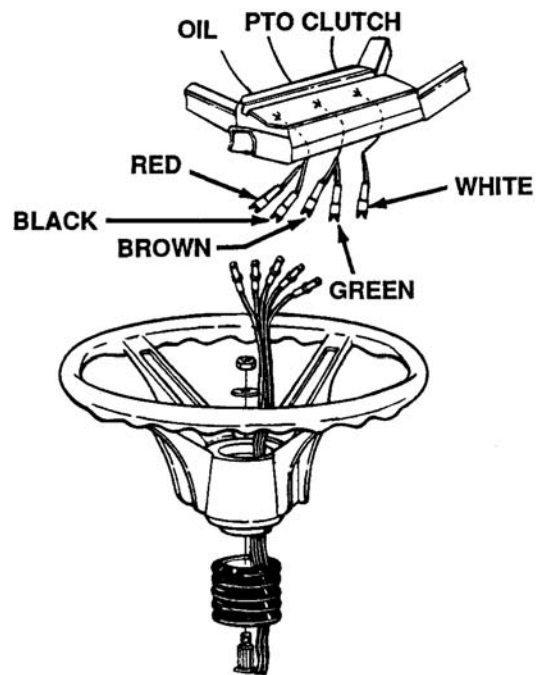

Figure 3-4. Steering Wheel.
- b. Place the five wires through the slotted hole located towards the center of the steering wheel hub. With the front wheels positioned straight forward, place the steering wheel over the steering shaft. Secure with the cupped washer and lock nut provided in the screwpack. See Figure 3-4.